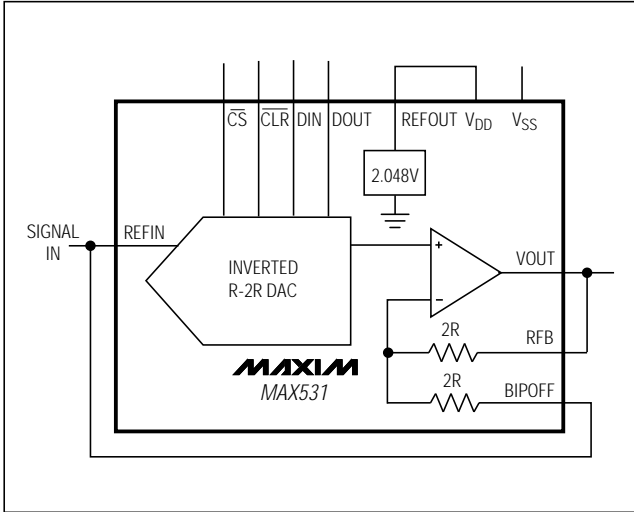

Figure 9. MAX531 Connected as Four-Quadrant Multiplier. The unused REFOUT is connected to VDD.
The MAX531 can be used as a four-quadrant multiplier by connecting BIPOFF to REFOUT and RFB to VOUT, using (1) an offset binary digital code, (2) bipolar power supplies, using dual power supplies, and (3) a bipolar analog input at REFOUT within the range  $V_{SS} + 2\text{V}$  to  $V_{DD} - 2\text{V}$ , as shown in Figure 9.